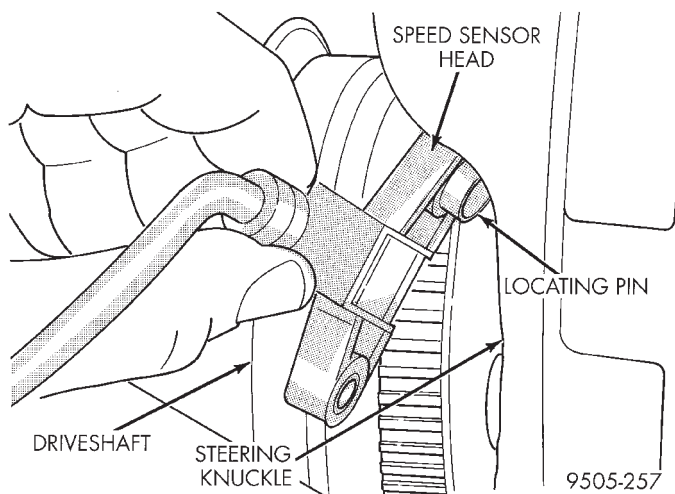

Fig. 37 Installing Speed Sensor Head In Steering Knuckle
(4) Install speed sensor head on steering knuckle (Fig. 37). When installing speed sensor head on steering knuckle, apply a small amount of grease on speed sensor locating pin (Fig. 37). Use Mopar, Multi-Purpose Grease or an equivalent on speed sensor head locating pin. Install the speed sensor head attaching screw and tighten to a torque of 6 N·m (55 in. lbs.).